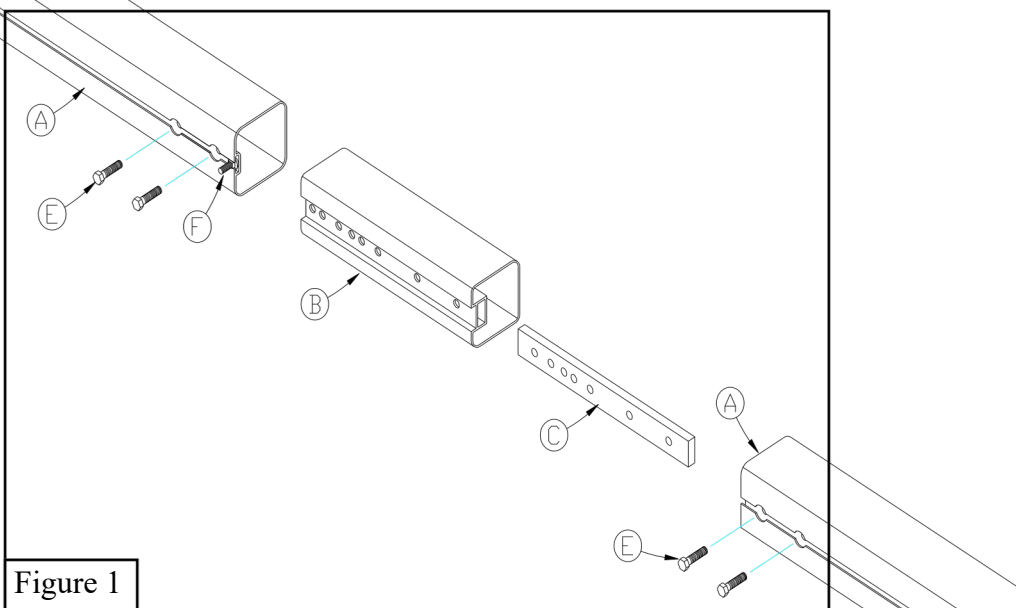

Figure 2
4. From each end of the *Crossbar* (A) insert and slide the head of a $\frac{5}{16}$ " x 1" *Carriage Bolts* (F) approximately 17-5/16" from the end.
5. Lay the soccer goal assembly down in position directly below the *Crossbar* (A) with the net attachment track facing upward. On the soccer goal temporarily remove one of the $\frac{3}{8}$ " x 1" *Hex Bolts* (E). Insert the heads of three $\frac{5}{16}$ " x 1" *Carriage Bolts* (F). Slide the $\frac{5}{16}$ " x 1" *Carriage Bolts* (F) approximately 21-5/16" in measuring from the outside of the soccer goals upright. The middle one should be centered. Reinstall and tighten the $\frac{3}{8}$ " x 1" *Hex Bolt* (E) in the soccer goals crossbar. See Figure 2.
6. Place the *Football Crossbar Support Brackets* (D) over the $\frac{5}{16}$ " x 1" *Carriage Bolts* (F). Using the $\frac{5}{16}$ " *Flat Washer* (G), and $\frac{5}{16}$ " *Nylon Lock Nuts* (H) tighten the *Football Crossbar Support Brackets* (D) to the crossbars.
7. Using the pilot holes provided in the *Football Crossbar Support Brackets* (D) drill a $\frac{5}{16}$ " hole through the bottom of the *Football Crossbar Support Brackets* (D) and through one wall of the crossbars. Using the $\frac{3}{8}$ " x 1" *Thread Cutting Hex Bolts* (I) to fasten the *Football Crossbar Support Brackets* (D) to the upper and lower crossbars (48 places). **NOTICE!** Use care when tightening the $\frac{3}{8}$ " x 1" *Thread Cutting Hex Bolts* (I). **Do not over tighten!** See Figures 2 and 3.
8. Continue to follow soccer instructions. Once assembled and in the upright playing position, insert the 10' *Uprights* (J) into the outside holes of the *Crossbar* (A) for high school and use the inside holes for college or rugby, once through the *Crossbar* (A) insert the *Upright Support* (K) into the bottom of the *Uprights* (J). Making sure the *Uprights* (J) are square and plumb with rest of the goal, mark and drill, using the pilot holes provided on the *Upright Supports* (K), a $\frac{5}{16}$ " hole through the *Upright Support* (K) and through the top of the soccer crossbar. Using the $\frac{3}{8}$ " x 1" *Thread Cutting Hex Bolts* (I) to fasten the *Upright Supports* (K) to the top of the soccer crossbar. See Figures 2, 3, & 4.